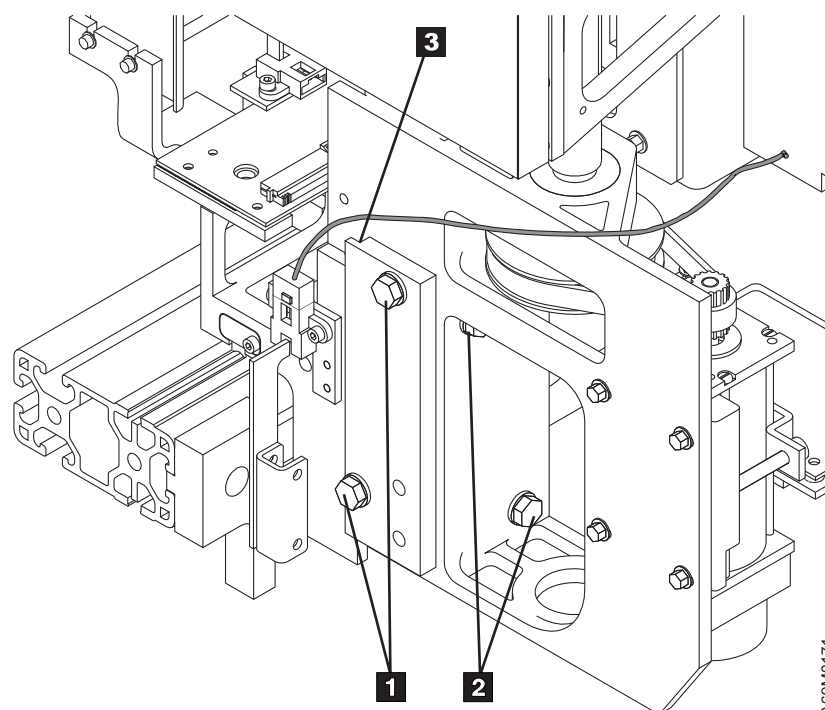

Figure 32. Lower portion of y-axis mast assembly
- ___ 1. Referring to Figure 32, loosen two bolts **1** and two bolts **2** enough to allow for adjustments.